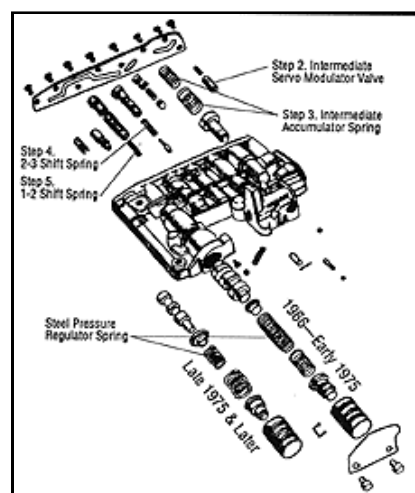

Figure 2
STEP 4 Upper Valve Body Disassembly. (See Figure 2).
Figure 2 shows a typical layout of a 1966-Early 1975 and Late 1975-Later upper valve body. This is used as a guide.